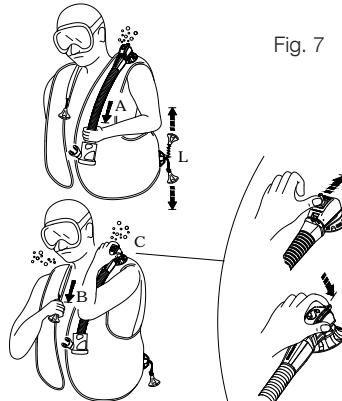

Fig. 7
- a. pulling gently on the hose assembly (fig. 7 - A).
- b. pushing on the button that protrudes out of the valve casing (fig. 7 - C) (Patented): this system could be useful also to purge air of another diver having problems (panic, beginner diver, unconsciousness, etc.).
- The SCUBAPRO® Dual Manual Dump Valve (Patent) has a safety hand button that releases air when pushed (fig 7-C), in case of failure of the Manual Dump System (broken cable, pin, etc.).
### ***Lower Dump Valve (fig. 7 - L)***
The deflation devices with the maximum outflow of gas are the shoulder valve fig. (7-B) and the lower valve (fig 7-L).